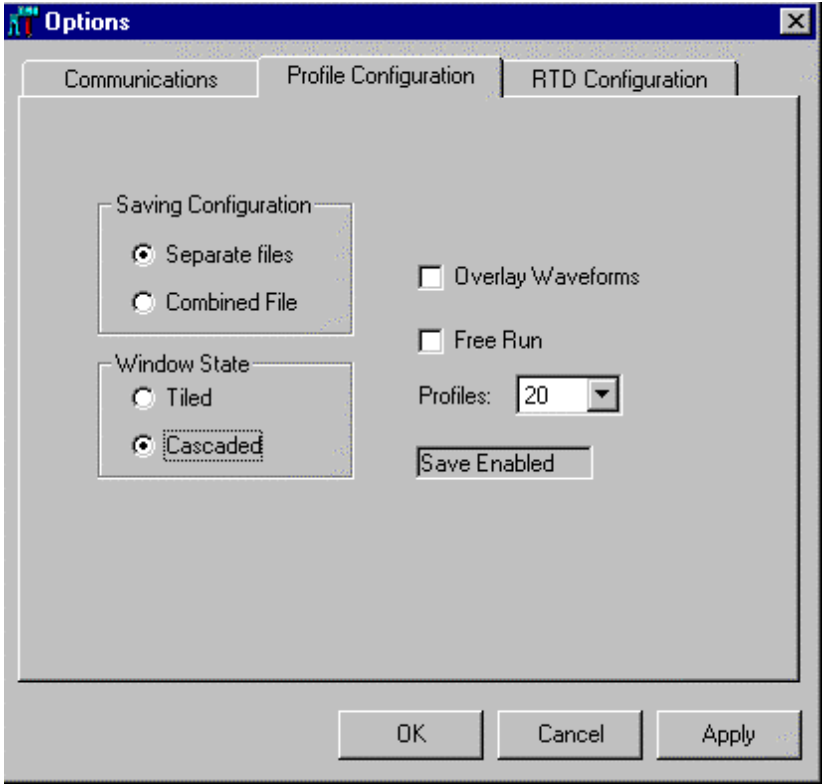

Figure 4 Profile Configuration
- ii) Profile Configuration dialog (see Figure 4) allows the user to select save configuration, type of window view, to save or freerun, and if save, number of profiles.